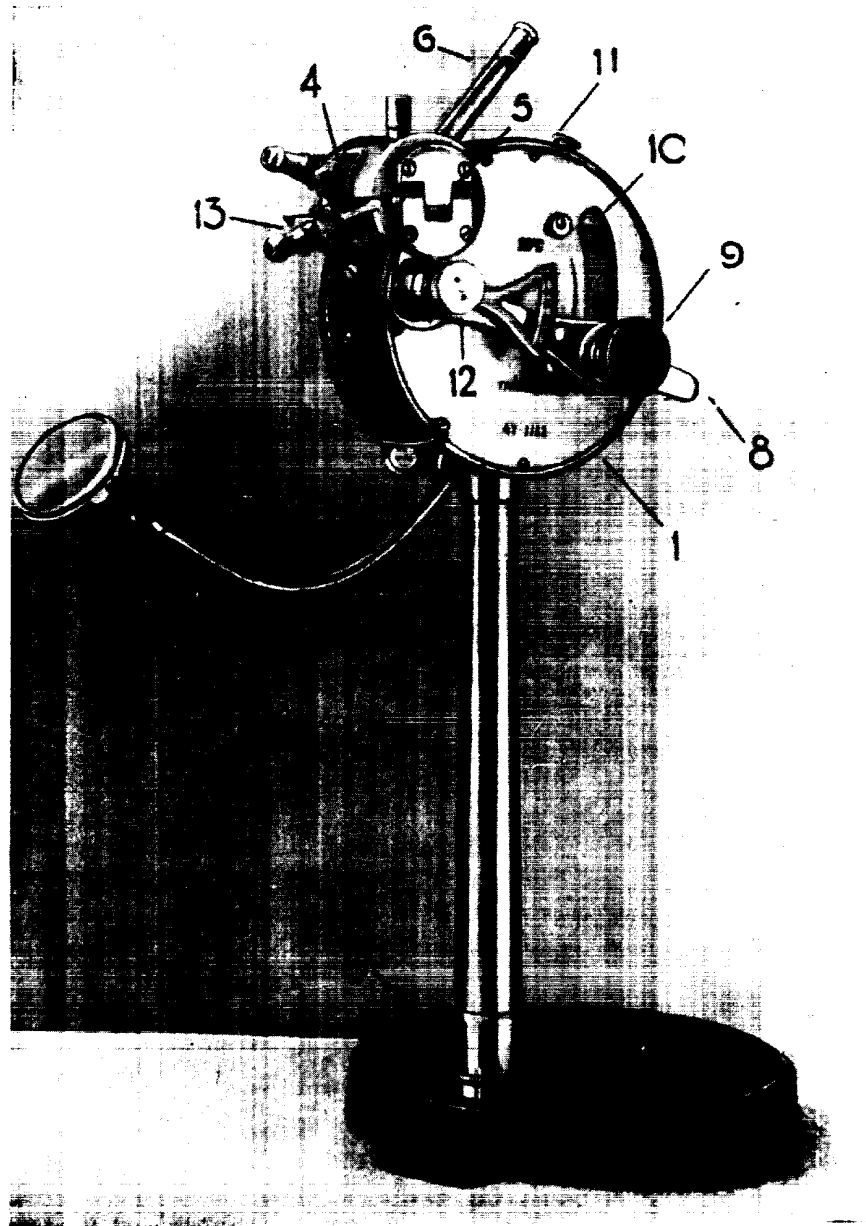

FIG. 2. Laboratory Refractometer Model P.1
The instrument (Fig. 2). consists of the following essential parts: circular casing (1), supported on upright (2), base (3), prism box (4) attached to casing and consisting of two halves connected by means of hinge (5).